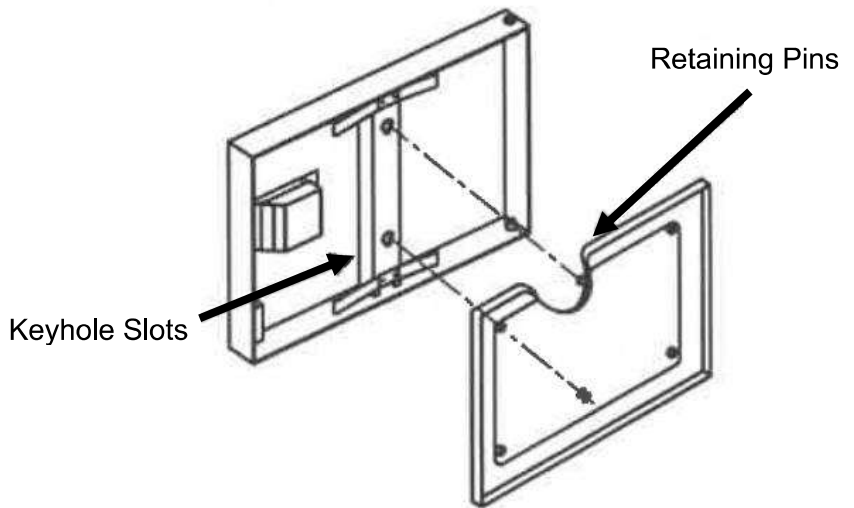

Figure 6-1
- a. Remove the door gasket assembly (see Figure 6-1) by holding the gasket assembly at the side and lifting up and away from the door.